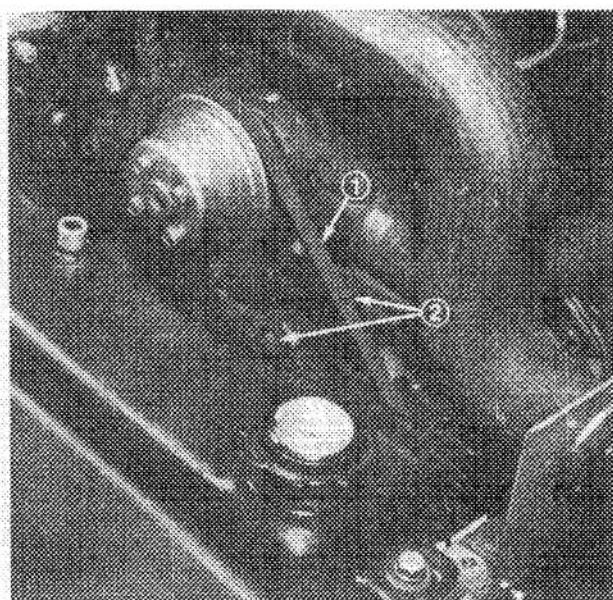

Figure 63
3. Loosen bolt securing brace to engine and bolt securing alternator to brace (Fig. 63).